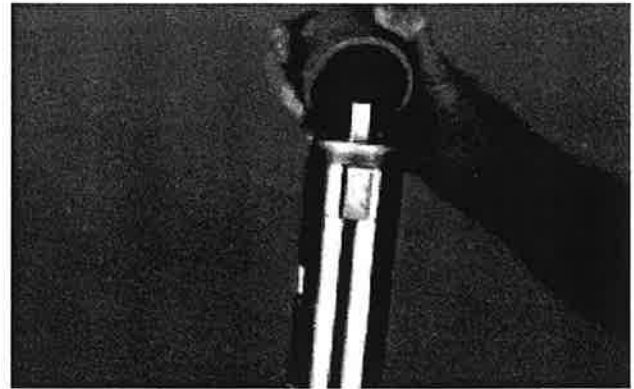

Figure 63. Install Locking Cap
- B. Install locking cap. See Figure 63.
- A. Remove cap. See Figure 63. Turn feed tube counterclockwise to zero mark on body tube. Do not permit boring bar to rotate. Otherwise, the plug will unscrew from fitting.
- Install locking cap. See Figure 63.